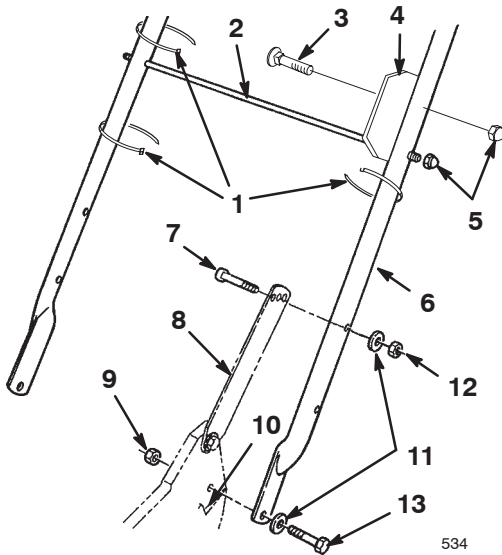

Figure 2
1. Mount the handle to the outside of the lawn mower housing (using the bottom hole) with 2 bolts (5/16–18 x 1-1/4 inch), washers, and thin nylon insert locknuts (Fig. 2).
2. Secure the handle latches to the handle with 2 bolts (5/16–18 x 1-1/2 inch), washers, and nylon insert locknuts (Fig. 2).
3. Slide the bag support rod through the bag aligning plate and into the second from the top mounting holes in the handle, and secure each end with a cap locknut (Fig. 2).
4. Insert the carriage bolt through the bag aligning plate and the top hole on the left side of the handle, and secure it with a cap locknut (Fig. 2).
6. Use cable ties to secure the brake cable to the handle (Fig. 2).